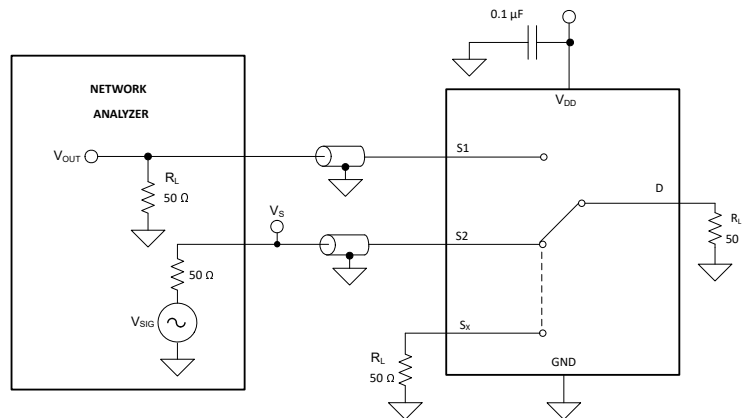

Figure 6-10. Channel-to-Channel Crosstalk Measurement Setup
Crosstalk is defined as the ratio of the signal at the drain pin (D) of a different channel, when a signal is applied at the source pin (S_x) of an on-channel. Figure 6-10 shows the setup used to measure, and the equation used to compute crosstalk.